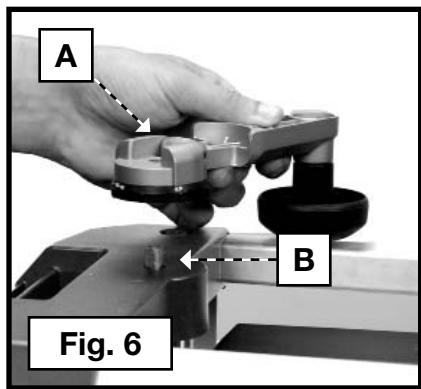

Fig. 6
1. Attach the cutterhead adjustment handle (A) Fig. 6 to the shaft (B), with the flat on the shaft engaged with the flat in the handle.